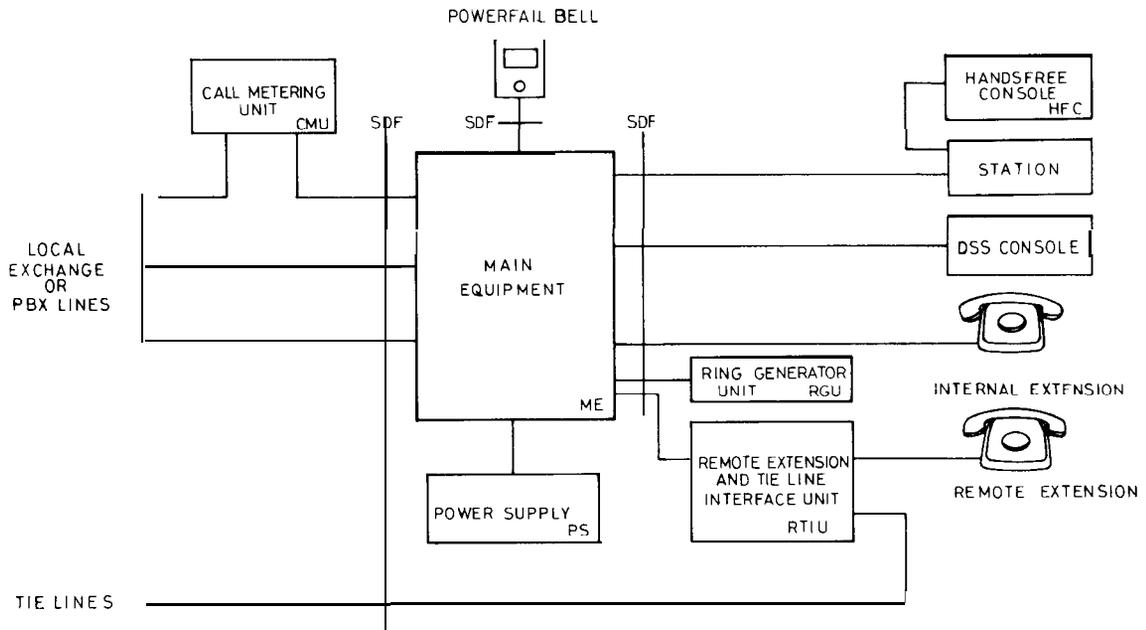

FIGURE 9 SYSTEM BLOCK DIAGRAM
1.4.3.1 System Block Diagram (Figure 9)